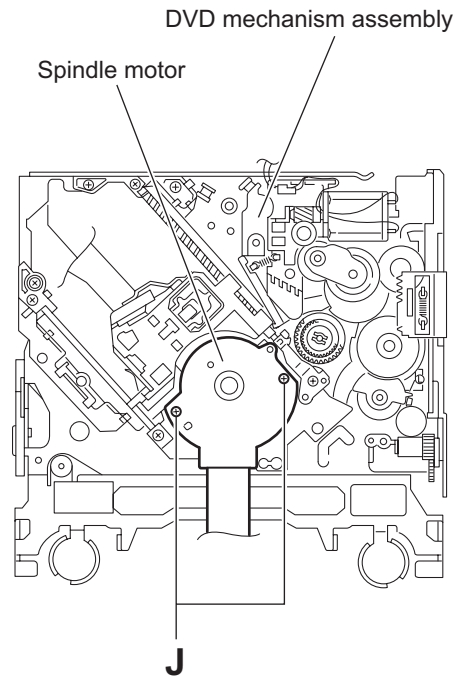

Fig.20
3.4.10 Removing the spindle motor (See Fig.20)